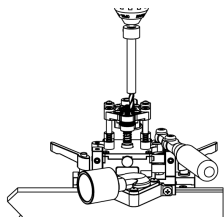

FIG. 15
1. With one hand holding the drill, insert the drill extension down through the upper bearing and into the lower bushing and place your other hand on the handle. (See Figure 15)